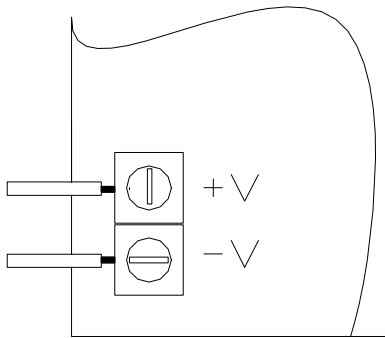

Fig.1 D.C. Power Connections.
2. Connect the specified power voltage to the Controller's terminal block. The branch circuit protection must not exceed 20 A. See Fig.1.